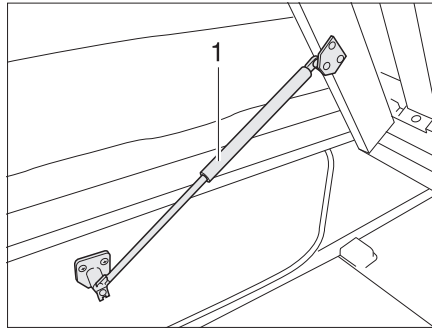

Fig. 170 Fixed bed
- Lift slatted frame. The gas-pressure springs (Fig. 170,1) hold the slatted frame open.